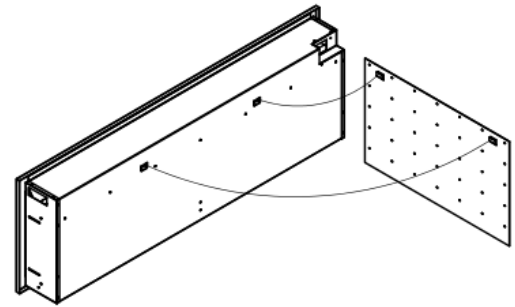

Fig. 2
4. Remove the hanger from the fireplace by removing the screws. See Figure 2.